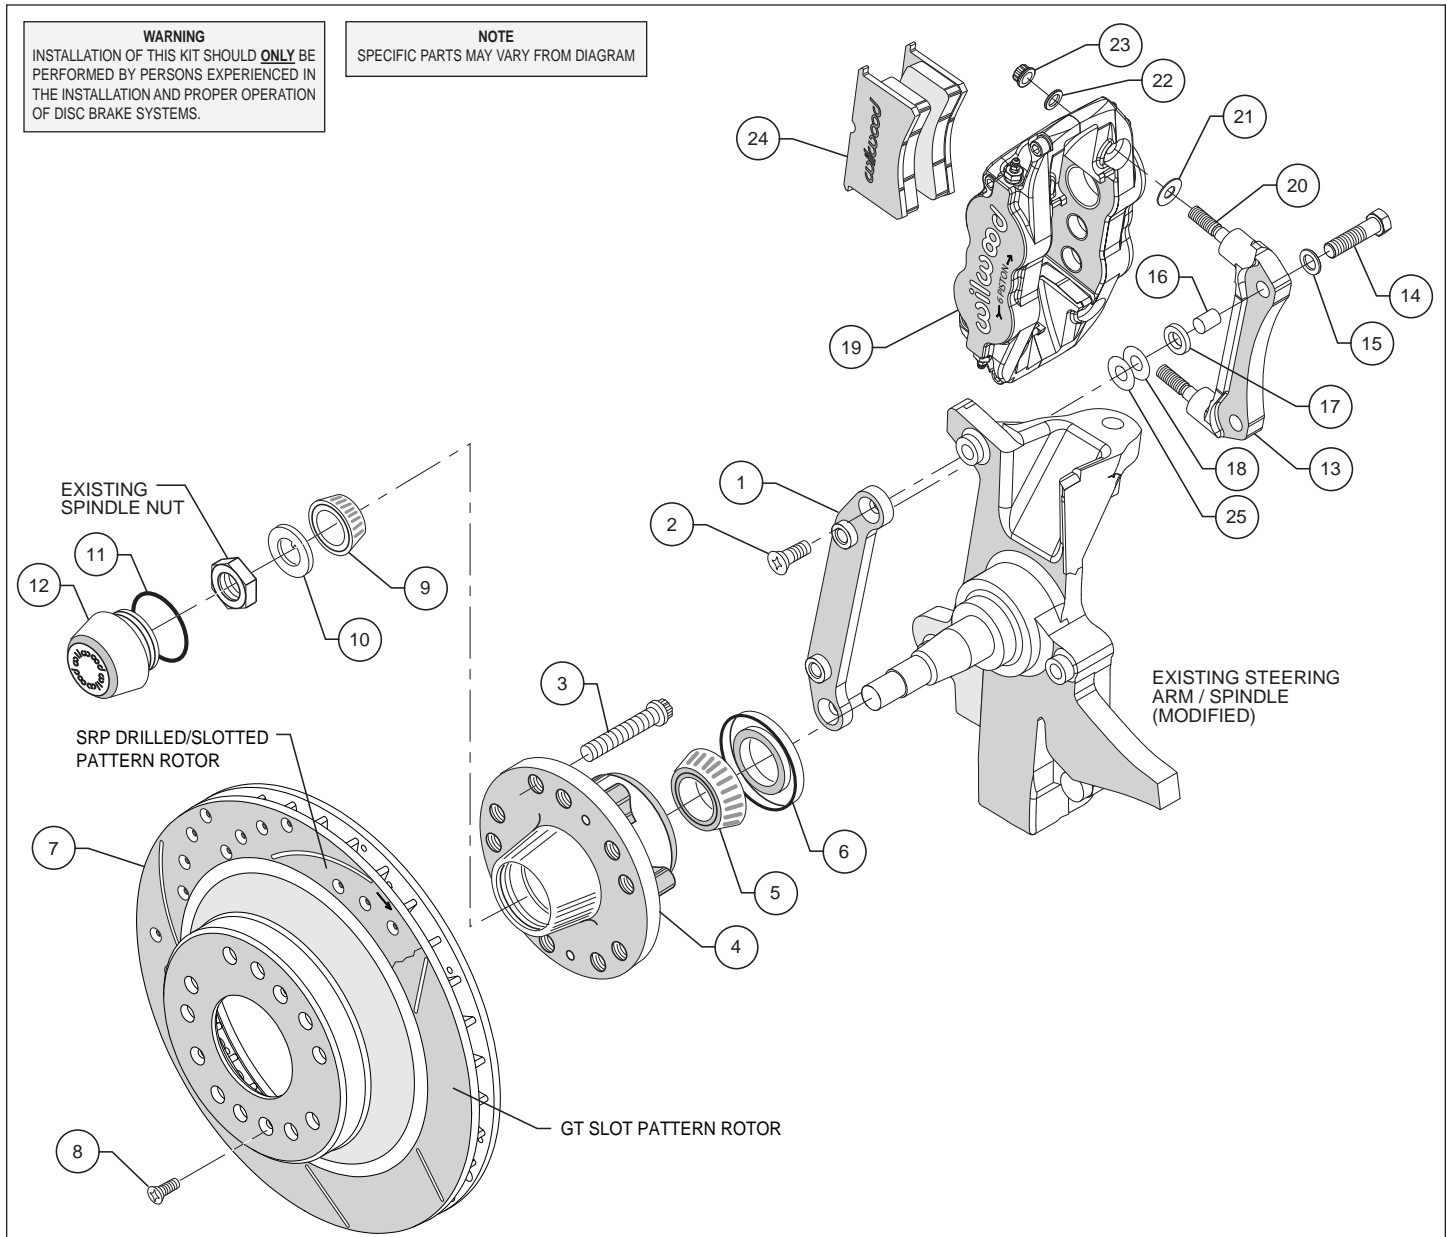
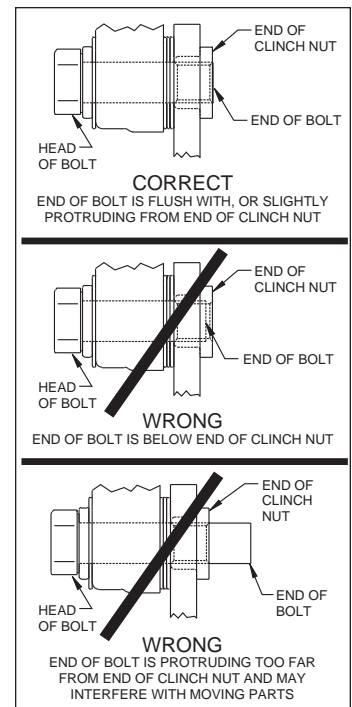

Figure 2. Typical Installation Configuration
Figure 4. Clinch Nut Engagement Diagram
Assembly Instructions (numbers in parenthesis refer to the parts list, and Figure 2): **CAUTION:** All mounting bolts must fully engage *clinch nuts*. Be sure to check that all bolts are either flush or protruding through flanged side of *clinch nut* after shimming, Figure 4.
- Orient the flat mounting bracket (1) as shown in Figure 2 and install using bolts (2). **NOTE:** Be sure the heads of the flat caliper bracket (1) insert nuts are facing outward toward the wheel. Temporarily tighten the mounting bolts. **NOTE:** The bracket must fit squarely against the mount bosses on the upright. Inspect for interference from casting irregularities, machining ridges, burrs, etc. After the bracket fitment has been checked, remove the bracket mounting bolts one at a time and apply red *Loctite*[®] 271 to the threads. Torque bolts to 40 ft-lb.
- The caliper radial mount bracket (13) should initially be installed with clean, dry threads on the mounting bolts. Place sleeve (16) into the holes on the bracket. Orient the bracket as shown in Figure 2, and install using bolts (14), and washers (15). Position spacer (17), and shim washers (18 and 25) between the two brackets. Initially place one .030" thick shim and one .016" thick shim on each bolt between the two brackets, Figure 2. Temporarily tighten the mounting bolts. Later, after the caliper alignment has been checked, the mount bolts will be secured using red *Loctite*[®] 271.
- Install wheel studs (3) into the hub (4), Photo 1. Torque to 77 ft-lb. **NOTE:** There are two five lug patterns in the hub (5 x 4.50 and 5 x 4.75). Ensure the correct hub stud pattern is being used to fit the wheel application.
- Pack the large inner bearing cone (5) with high temperature disc brake bearing grease (available from your local auto parts store) and install into the backside of the hub (4), Photo 2.
- Install the grease seal (6) by pressing into the backside of the hub (4), flush with the end of the hub, Photo 2.
- Pack the small outer bearing cone (9) with high temperature disc brake bearing grease and install into hub (4). Slide the hub assembly onto the spindle. Secure using spindle washer (10) and OEM spindle nut, Photo 3. Adjust bearings per OEM specifications. Install saved OEM nut lock (if any) and a new cotter pin (not included).
- Screw dust cap (12) into hub (4), Photo 4. Friction created by the o-ring (11) on the dust cap keeps it from unscrewing. **NOTE:** The O.D. of the existing OEM spindle washer may be larger than the I.D. of the dust cap not allowing it to seat against the hub face. Therefore, use the spindle washer (10) supplied with the kit instead of the OEM washer.
- Slide the hat/rotor (7) onto the hub (4) taking care to align the small countersunk holes in the hat with the small threaded holes in the hub. **NOTE:** The hat must fit flush against the hub face or excessive rotor run out may result. Install three flat head screws (8) through the small holes in the hat (7), Photo 4, and torque to 85 in-lb.
- **NOTE:** This kit contains distinct right and left hand calipers that must be mounted in a specific direction, as described below. Lubricate the caliper mounting studs (20) with lightweight oil. Initially place one .035" thick shim (21) on each stud between the caliper and the bracket, as shown in Figure 2 and Photo 5. Mount the caliper (19) onto the bracket (13) using lock nuts (23) and washers (22), Figure 2. Ensure that the caliper is mounted so the largest pistons are at the rotor exit end of the caliper, in relation to the direction of rotor rotation. Temporarily tighten the lock nuts and view the rotor through the top opening of the caliper. The rotor should be centered in the caliper, Photo 6. If not, adjust by adding or subtracting shims (18 and/or 25) between the two brackets. Always use the same amount of shims on each of the two mounting bolts. Once the caliper alignment is correct, remove the bracket mounting bolts one at a time, apply red *Loctite*® 271 to the threads, and torque to 60 ft-lb.
- Remove the caliper center bridge pad retainer bolt, nut, and tube from the caliper. Insert the brake pads (24) into the caliper, with the friction material facing the rotor, as shown in Photo 7. Check that the top of the brake pad is flush with the outside diameter of the rotor, Photo 8. If not, adjust by adding or subtracting shims (21) between the caliper and the bracket. After the caliper pad height is set, torque the caliper lock nuts (23) to 30 ft-lb. Secure the brake pads in place with the center bridge pad retainer tube, bolt, and locknut. The locknut should be snug without play in the bolt or tube. Be cautious not to over tighten.